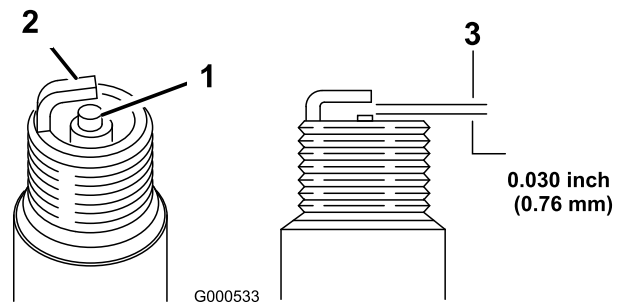

Figure 26
11. Set the gap on the plug to 0.030 inch (0.76 mm) as shown in Figure 26.